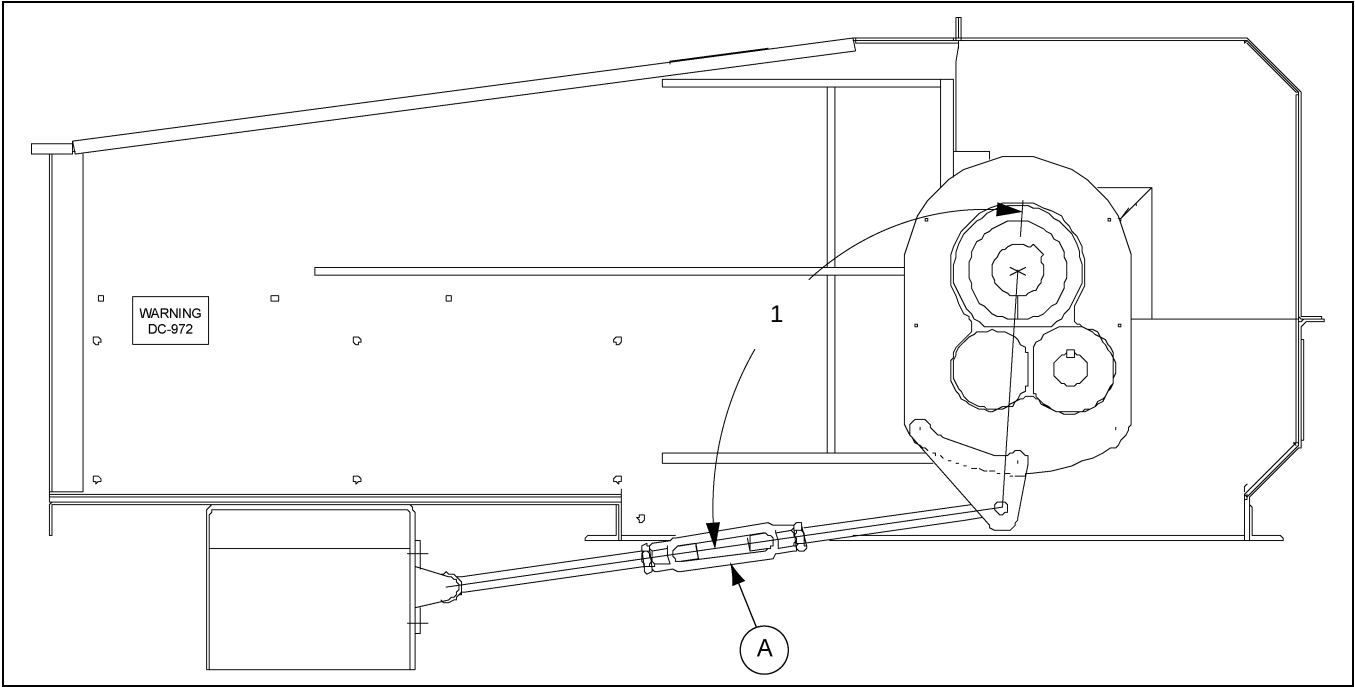

Figure 4K Torque Arm Bracket Installation
NOTE: *When installing torque arm bracket keep angle (1) of torque arm and reducer between -15° and +15° of 90° per manufacturer's recommendations. This angle is shown in Figure 4K.*